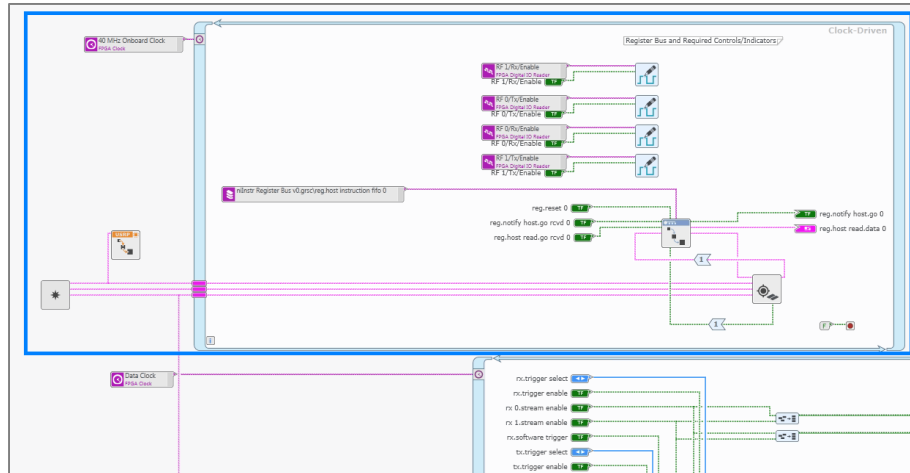

Figure 57: Clock-Driven Loop to Copy From
- a. As shown in Figure 57, select and copy the following from the Diagram: “Create Resources.gvi”, “Process.gvi”, the Clock Constant, and the Clock-Driven Loop.